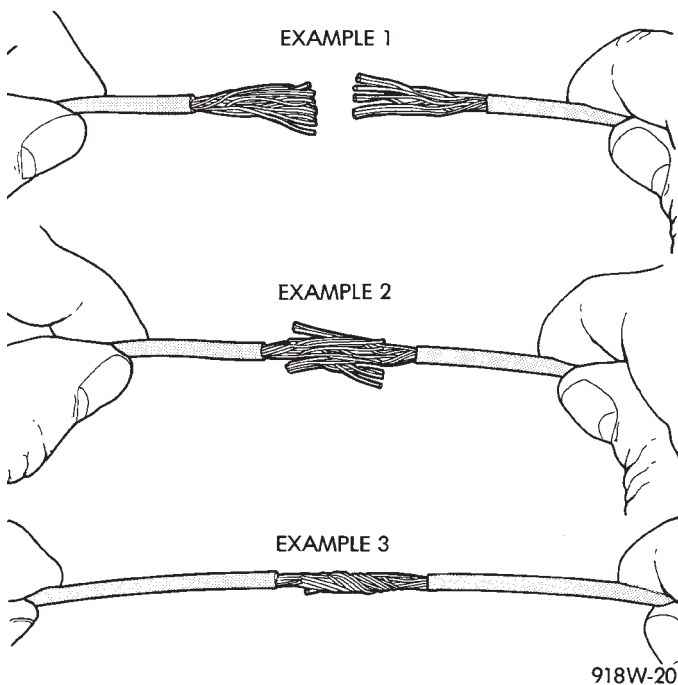
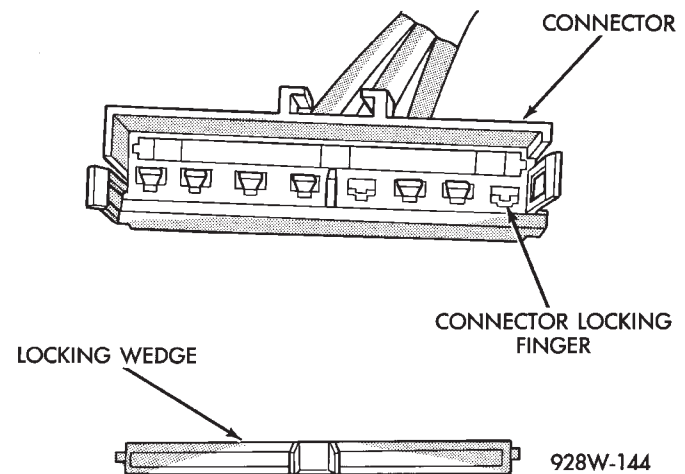

Fig. 7 Wire Repair
Fig. 9 Connector Locking Finger and Locking Wedge
- (1) Disconnect battery negative cable.
- (2) Remove 1 inch of insulation from each end the wire.
- (3) Place a piece of heat shrink tubing over one side of the wire. Make sure the tubing will be long enough to cover and seal the entire repair area.
(4) Spread the strands of the wire apart on each part of the exposed wires (Fig. 7 example 1).
(5) Push the two ends of wire together until the strands of wire are close to the insulation (Fig. 7 example 2).
(6) Twist the wires together (Fig. 7 example 3).
(7) Solder the connection together using rosin core type solder only. **Do not use acid core solder.**
(8) Center the heat shrink tubing over the joint and heat using a heat gun. Heat the joint until the tubing is tightly sealed and sealant comes out of both ends of the tubing.
(9) Secure the wire to the existing ones to prevent chafing or damage to the insulation.
(10) Connect battery and test all affected systems.
- (4) Position the connector locking finger away from the terminal. Pull on the wire to remove the terminal from the connector (Fig. 9).
- (5) Reset the terminal locking tang, if it has one.
- (6) Insert the removed wire in the same cavity on the repair connector.
- (7) Repeat steps four thru six for each wire in the connector, being sure that all wires are inserted into the proper cavities. For additional connector pin out identification refer to the wiring diagrams.
- (8) Insert the connector locking wedge into the repaired connector.
- (9) Connect connector to its mating half.
(8) Place a piece of heat shrink tubing over one side of the wire. Make sure the tubing will be long enough to cover and seal the entire repair area.
(9) Spread the strands of the wire apart on each part of the exposed wires (Fig. 7 example 1).
(10) Push the two ends of wire together until the strands of wire are close to the insulation (Fig. 7 example 2).
(11) Twist the wires together (Fig. 7 example 3).
(12) Solder the connection together using rosin core type solder only. **Do not use acid core solder.**
(13) Center the heat shrink tubing over the joint and heat using a heat gun. Heat the joint until the tubing is tightly sealed and sealant comes out of both ends of the tubing.
(14) Repeat steps 8 thru 13 for each wire.
(15) Re-tape the wire harness starting 1-1/2 inches behind the connector and 2 inches past the repair.
(16) Reconnect the repaired connector.
(17) Connect battery and test all affected systems.
(4) Position the connector locking finger away from the terminal. Pull on the wire to remove the terminal from the connector (Fig. 9).
(5) Cut the wire 6 inches from the back of the connector.
(6) Remove 1 inch of insulation from the wire on the harness side.
(7) Select a wire from the terminal repair assembly that best matches the color wire being repaired.